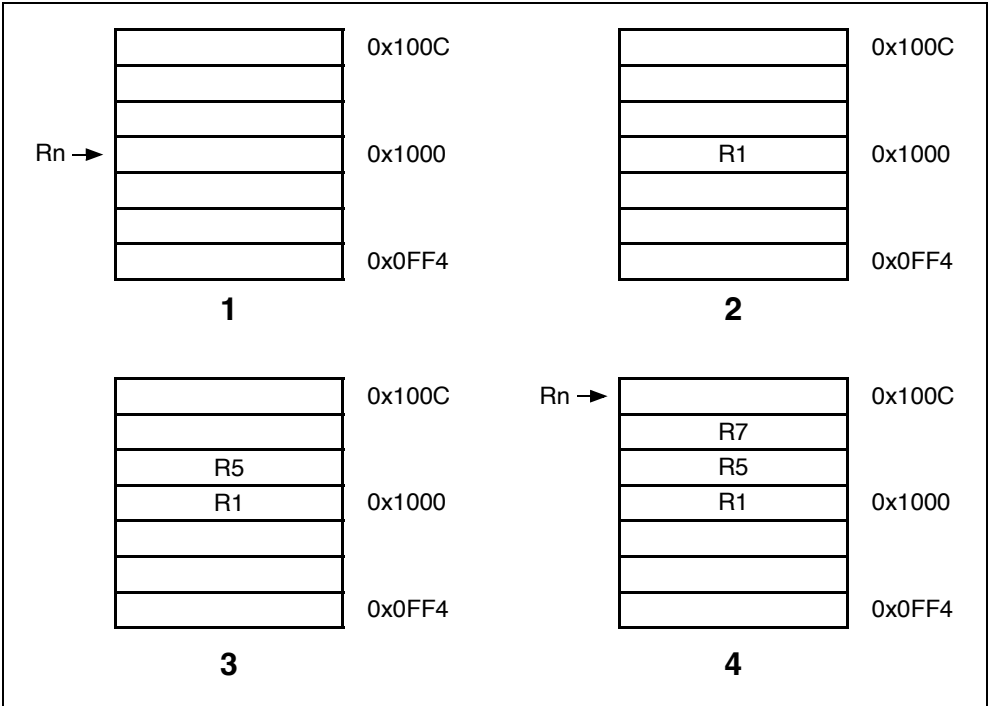
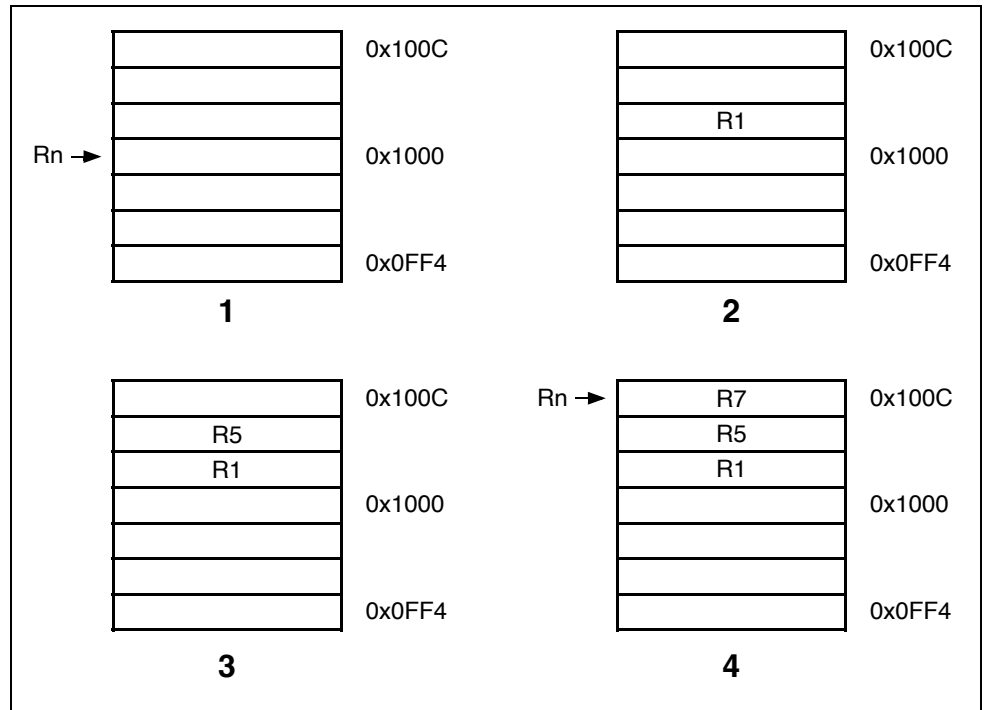
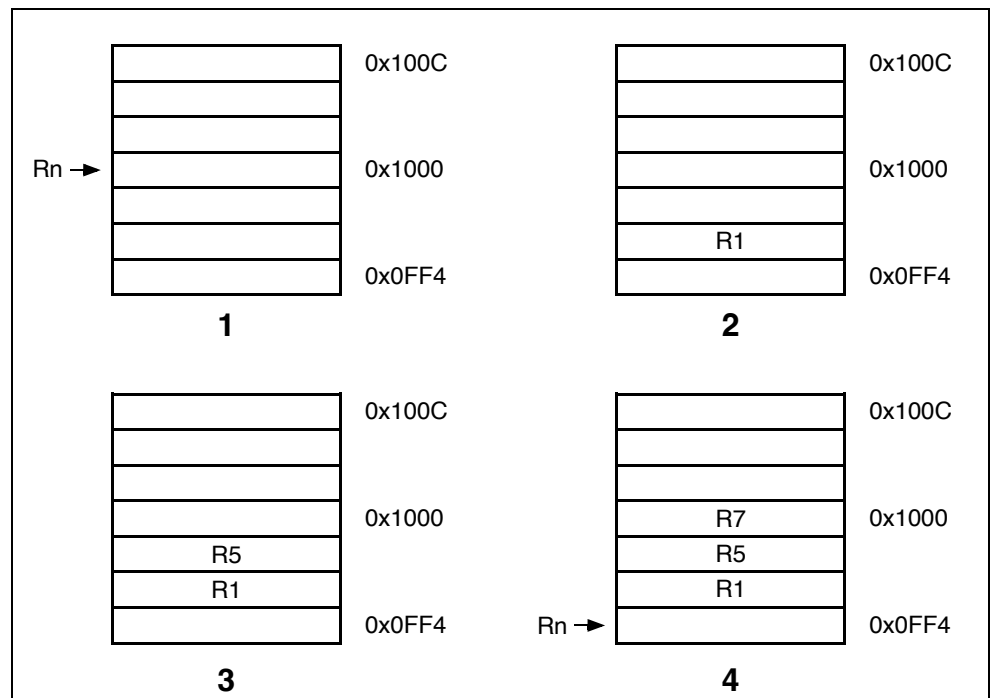

Figure 4-19: Post-increment addressing
Figure 4-20: Pre-increment addressing
Figure 4-21: Post-decrement addressing
The transfer addresses are determined by the contents of the base register (Rn), the pre/post bit (P) and the up/down bit (U). The registers are transferred in the order lowest to highest, so R15 (if in the list) will always be transferred last. The lowest register also gets transferred to/from the lowest memory address. By way of illustration, consider the transfer of R1, R5 and R7 in the case where Rn=0x1000 and write back of the modified base is required (W=1). **Figure 4-19: Post-increment addressing** on page 4-38, **Figure 4-20: Pre-increment addressing** on page 4-39, **Figure 4-21: Post-**